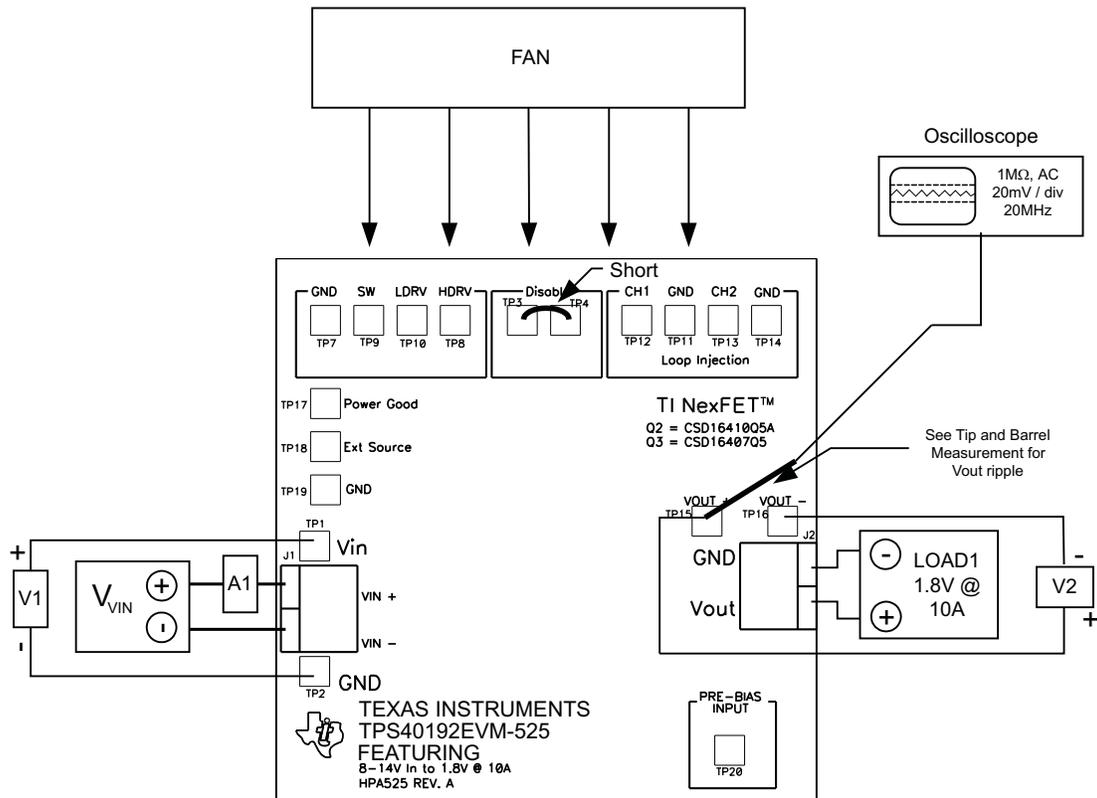

Figure 2. TPS40192EVM-525 Recommended Test Setup
The input voltage source ( $V_{IN}$ ) should be a 0- to 15-V variable DC source capable of 5 Adc. Connect  $V_{IN}$  to J1 as shown in Figure 2.
Shown in Figure 2 is the basic test setup recommended to evaluate the TPS40192EVM-525. Note that although the return for J1 and J2 are the same, the connections should remain separate as shown in Figure 2.
2. Prior to connecting the DC input source,  $V_{IN}$ , it is advisable to limit the source current from  $V_{IN}$  to 5 A maximum. Ensure that  $V_{IN}$  is initially set to 0 V and connected as shown in Figure 2.
3. Connect the ammeter A1 (0- to 5-A range) between  $V_{IN}$  and J1 as shown in Figure 2.
4. Connect voltmeter V1 to TP1 and TP2 as shown in Figure 2.
5. Connect LOAD1 to J2 as shown in Figure 2. Set LOAD1 to constant-current mode to sink 0 Adc before  $V_{IN}$  is applied.
6. Connect voltmeter, V2 across TP15 and TP16 as shown in Figure 2.
7. Place fan as shown in Figure 2 and turn on, ensuring that air is flowing across the EVM.